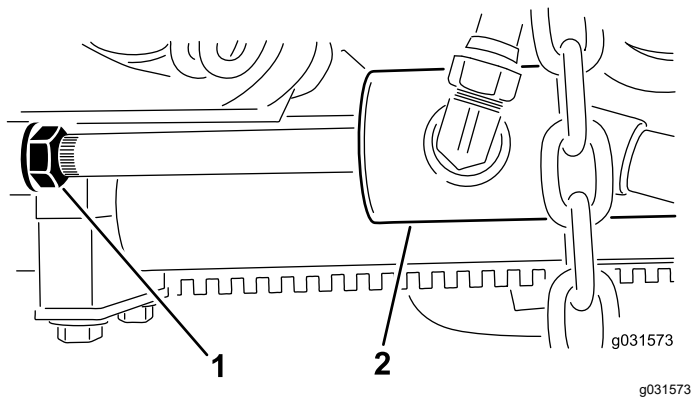

Figure 12
- B. Back off the jam nut on the cylinder (Figure 12).